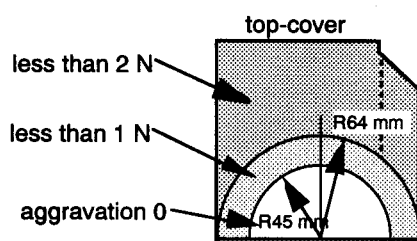

Figure 2
- (3) Care should be especially paid for the heat effect. Keep the air ventilation and shut out heat from the environmental condition. Then, install the equipment where the environmental temperature around the equipment does not exceed 50 °C.
- (4) Do not add the force beyond the recommended value on the top and bottom cover of the equipment. (The recommended value range for the top cover is shown in the under Figure 2)